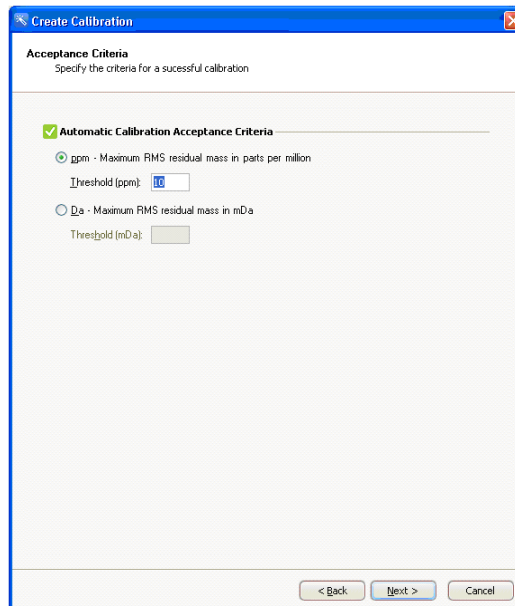

Figure 83 - Acceptance criteria
15. Use the default Acceptance Criteria for the Automatic Calibration as shown in Figure 83.